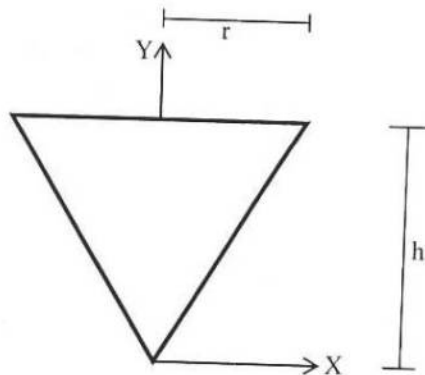

Figure 2
- 2) Determine the mass moment of inertia of the right circular cone about X-X axis shown in Figure 2.